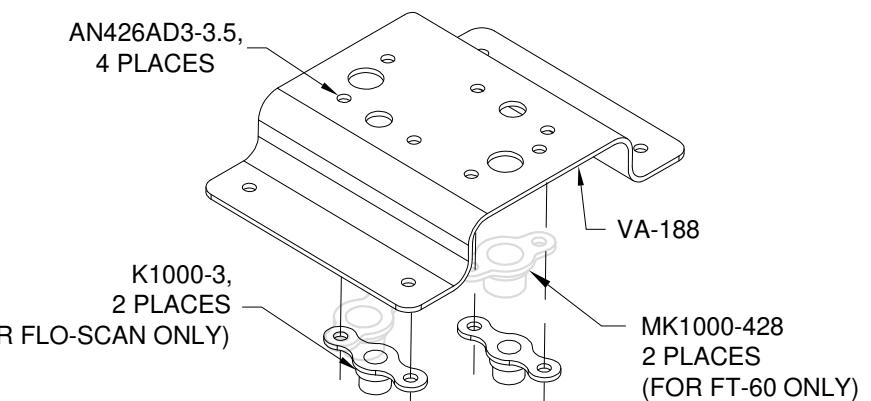

FIGURE 3: FLO-SCAN MOUNT BRACKET NUTPLATE INSTALLATION
Step 10: Remove the F-01072-1 Fwd Bottom Skin from the F-1048 Fwd Fuselage Ribs. See Page 28-6, Figure 3.
Final-Drill #40 the nutplate attach holes in the flo-scan mount bracket. Final-Drill #12 and 1/4 the nutplate screw holes in the flo-scan mount bracket. See Figure 3.
Dimple the rivet holes in the flo-scan mount bracket. See Figure 3.
Step 1: Dimple the nutplates that will be installed to the VA-188 Flo Scan Mount Bracket. Rivet nutplates to the flo scan mount bracket as shown on Page 28-10, Figure 3.